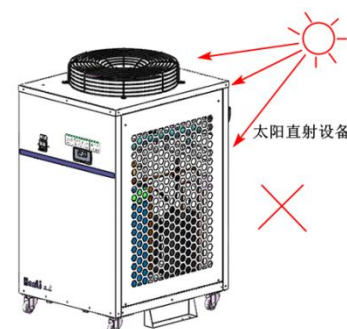

图 5 设备安装环境要求
- The product must not be installed in harsh environments such as corrosive and flammable gases, heavy dust, oil mist, metal and other conductive dust, high temperature and humidity, strong magnetic fields, direct sunlight, etc. , as shown in Figure 5 .